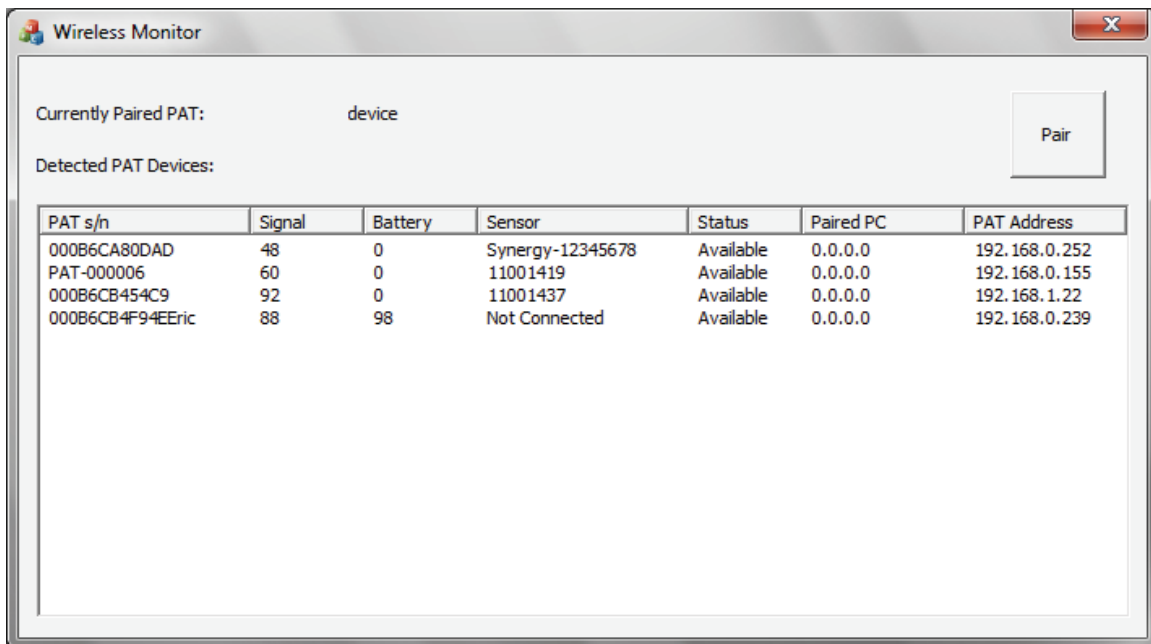

Figure 12. PAT Management List of Paired and Available PATs
3. Select the desired PAT device from the list of PAT devices (Figure 12).